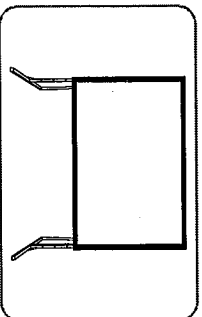

Figure 21
4. Lift up the screen and installation is completed (Figure 21).